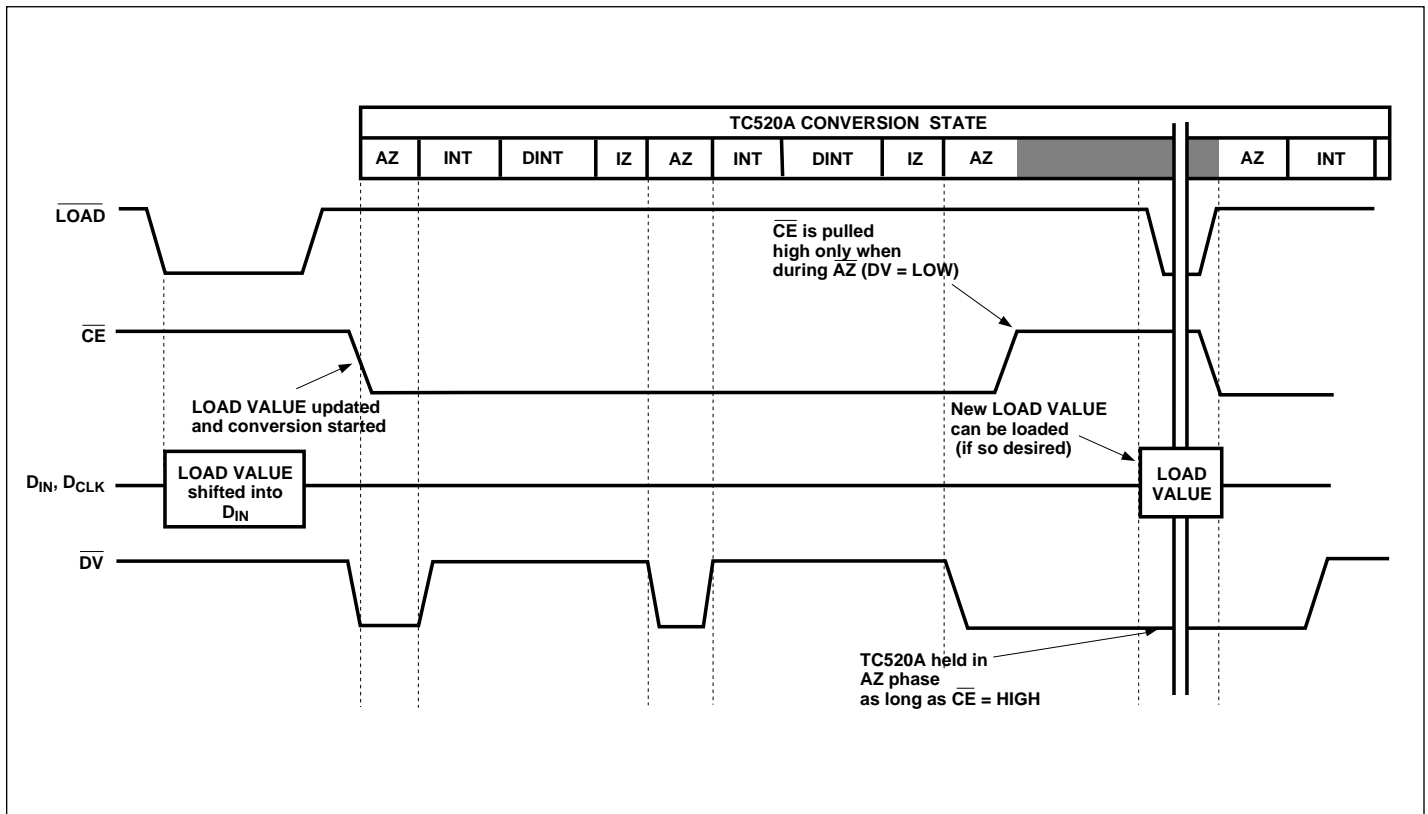

Figure 1. TC520A Initialization and Start/Stop Conversion Timing Relationships
A, B have been sequenced through the required 4 phases of conversion: Auto Zero (AZ), Integrate (INT), De-integrate (D_{INT}) and Integrator Zero (IZ) (See Figure 1). The Auto Zero phase compensates for offset errors in the TC5xx A/D converter. The integrate phase connects the voltage to be converted to the TC5xx A/D converter input (resulting in an integrator output dv/dt directly proportional to the magnitude of the applied input voltage). Actual A/D conversion (counting) is initiated at the start of the D_{INT} phase and terminates when the integrator output crosses 0V. The integrator output is then forced to 0V during the IZ phase and the converter is ready for another cycle. Please see the TC500/500A/510/514 data sheet for a complete description of these phases.
In this example, $\text{LOAD VALUE} = 128_{(10)} = 10\text{H}$. Therefore, a LOAD VALUE of 10H is loaded to the TC520A. If the desired T_{INT} was 100msec instead of 131msec, the LOAD VALUE would be 9EH, and so on. The TC520A LOAD VALUE must be initialized on power-up, and can be re-initialized as often as desired thereafter. This is accomplished by bringing the LOAD input low while transmitting the appropriate LOAD VALUE to the TC520A as shown in Figure 1 and Figure 2.